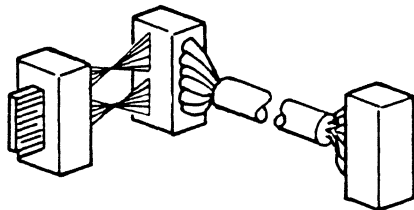

Figure 7-5. MS/8 Interface Cable
- a. Starting with extension unit 1, check each extension unit to determine if an MS/8 cable is attached to card slot positions B, C, D, and/or E at the rear of the card cage (Figure 7-5).